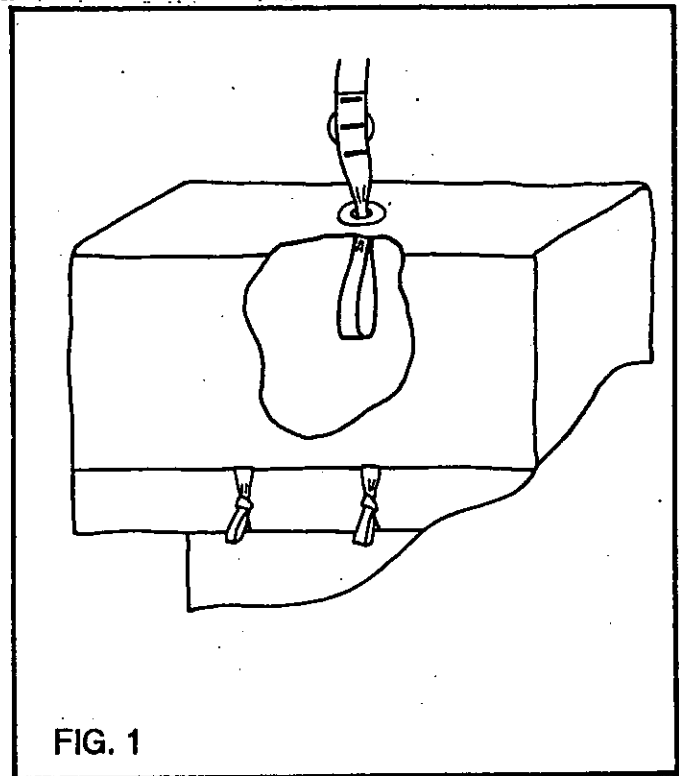
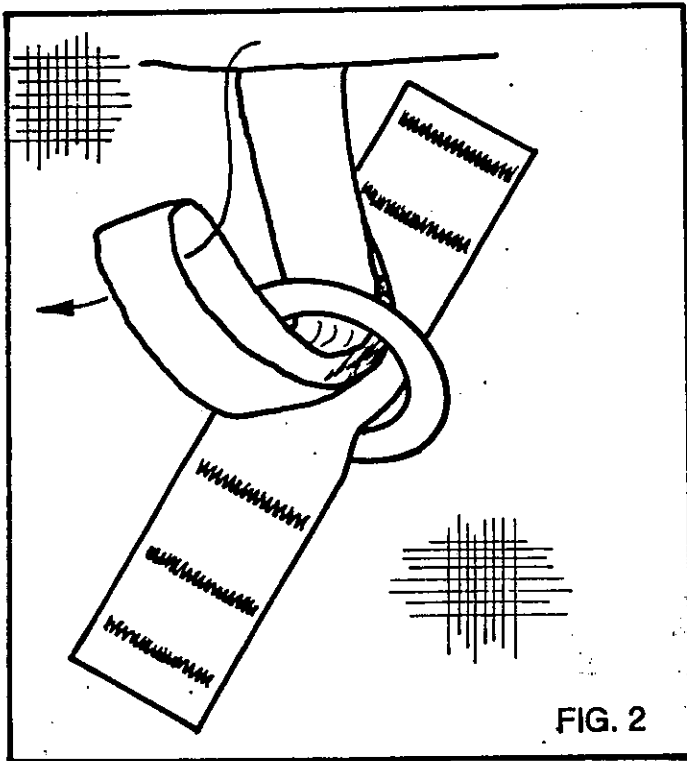

FIG. 1
FIG. 2
4) All main ram air canopies are furnished with a bridle attachment point at the center of the upper surface. This consists of either a metal ring or a loop of tape or webbing. To attach the pilot chute, bridle and deployment bag to the main canopy, pass the loop end of the bridle down thru the grommet in the top of the bag as shown in FIG. 1. Then pass the loop thru the bridle attachment on the top of the canopy (FIG. 2). Now pass the pilot chute and bag thru the loop in the end of the bridle and pull the loop tight as shown in FIG. 3. (An easy alternative method of attachment is to simply use a connector link.)